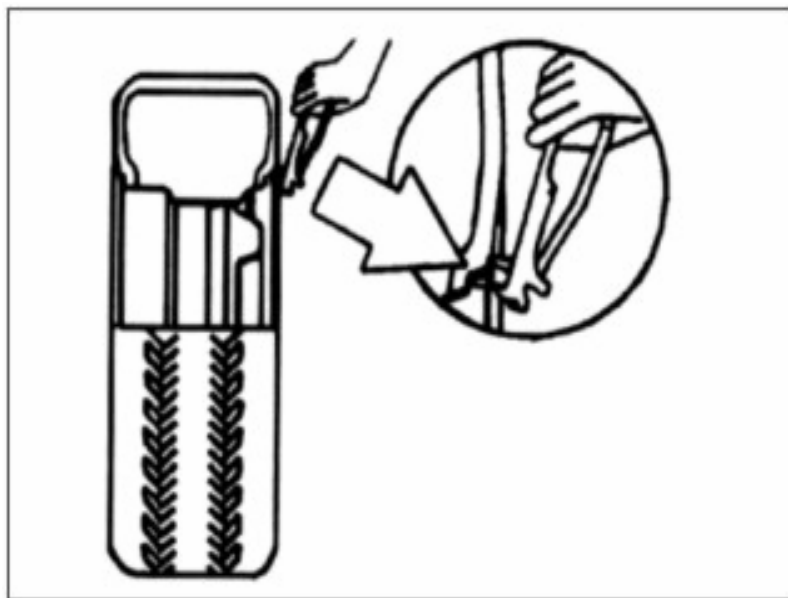

Fig 10
2. Remove the wheel weights from the external side of the rim. (Fig.10)